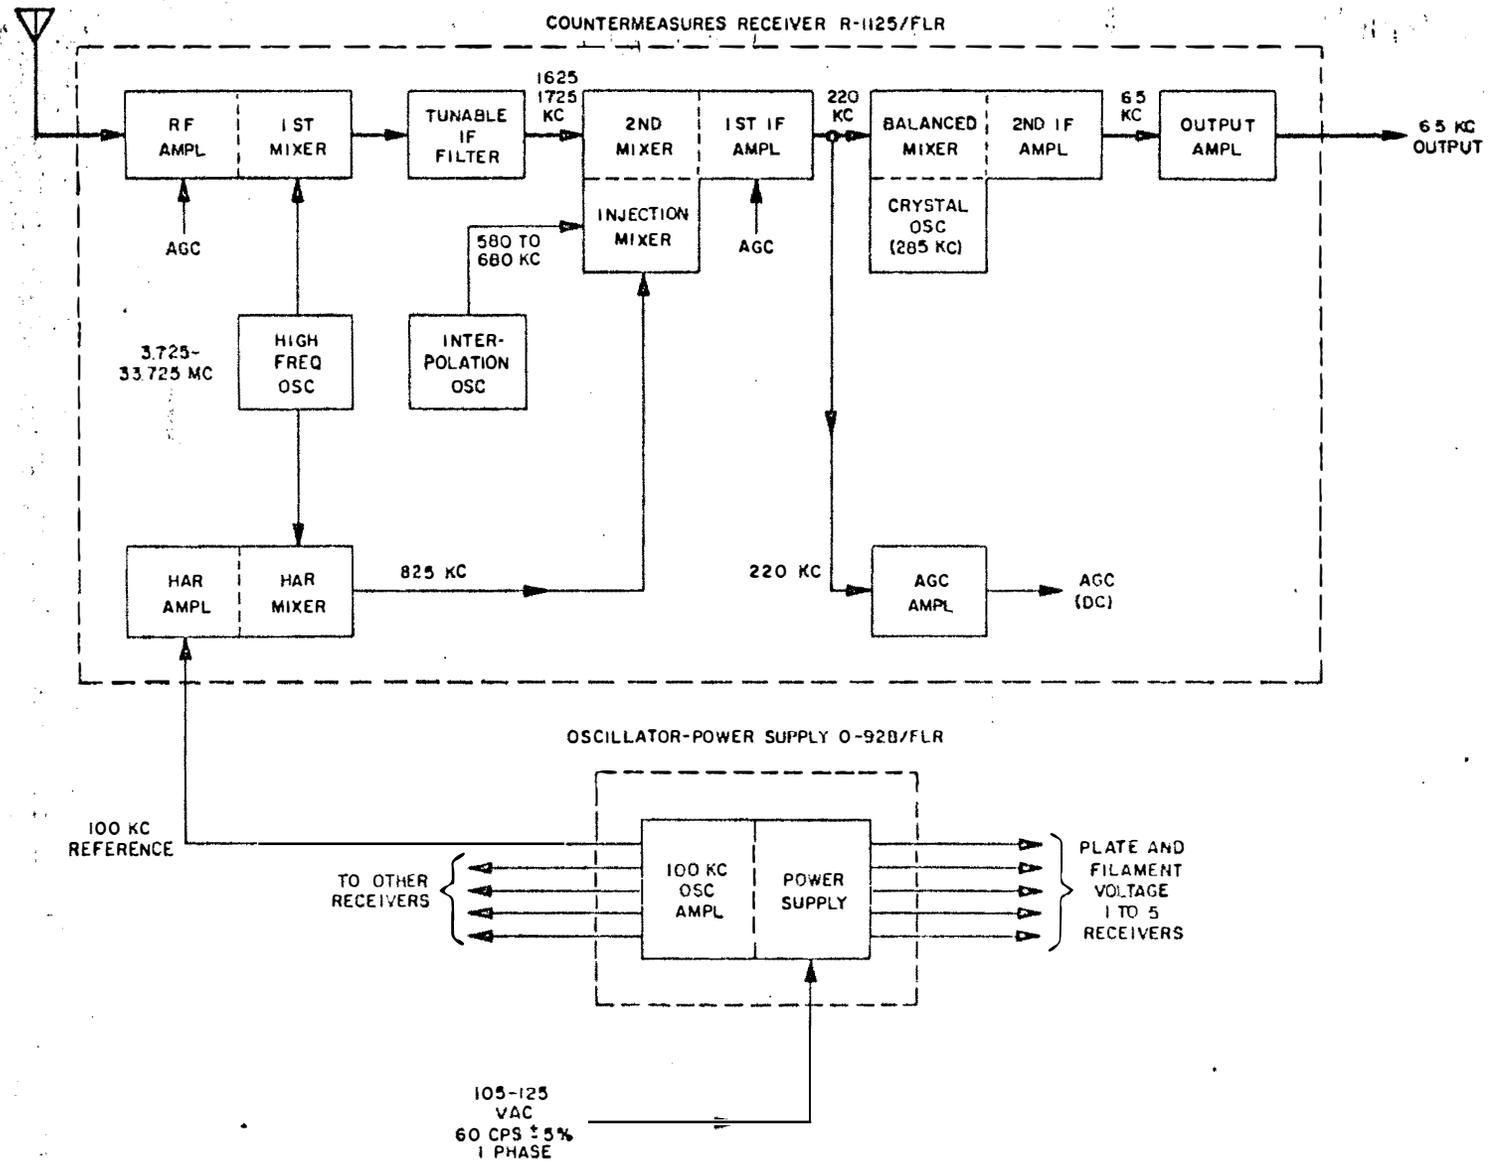

Figure 4-2. Countermeasures Receiver R-1125/FLR and Oscillator-Power Supply O-928/FLR, Functional Block Diagram
c. FUNCTIONAL OPERATION. - Figure 4-2 is a functional block diagram of the R-1125/FLR and O-928/FLR. The main signal path through the assemblies is indicated by a heavy line with arrowheads showing the direction of signal flow. Arrowheads on light lines show the direction of signal flow for secondary signal paths.
(1) COUNTERMEASURES RECEIVER R-1125/FLR. - An r-f signal at the antenna is selected and amplified by the r-f amplifier, and applied to the first mixer. Here it is combined with a locally generated r-f signal from the high-frequency oscillator (HFO) to produce the first i-f frequency between 1625 kc and 1725 kc. A 60-kc signal bandwidth is selected by the tunable i-f filter and applied to the second mixer to obtain the second i-f frequency of 220 kc. After amplification, the signal is applied to